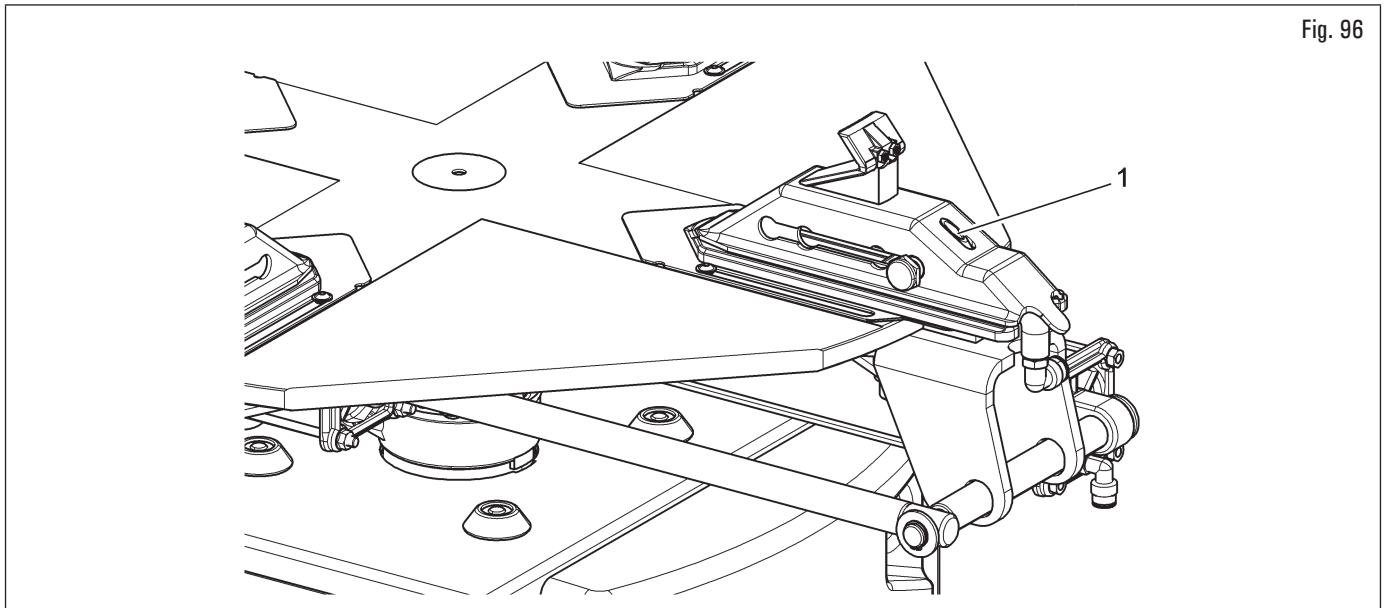

Fig. 96
The tubeless inflation device supplies high-pressure air from the nozzle (Fig. 96 ref. 1), which encourages the correct positioning of the bead against the rim, and therefore normal inflation.